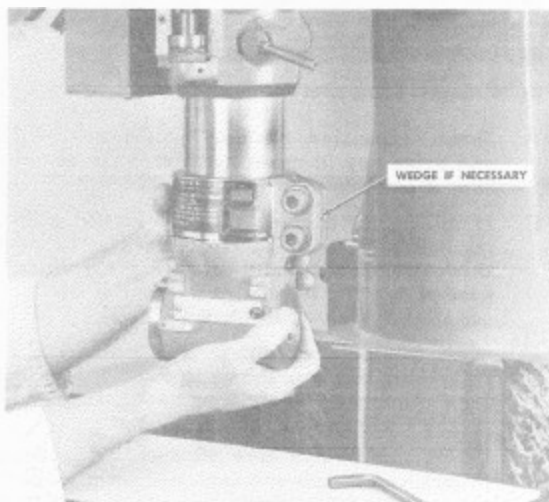

Fig. 44. Attaching 90° milling head to quill.
- B. Lower quill, then push the 90° milling head main assembly onto the quill as shown in Fig. 44. If the head casting fits too tightly, drive a small wedge into the saw slot to expand it a few thousandths.